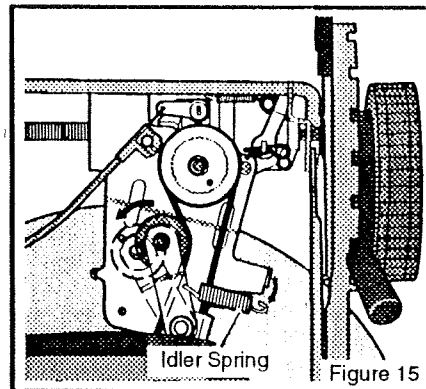

Figure 15
3. Disconnect the idler spring (Figure 15).